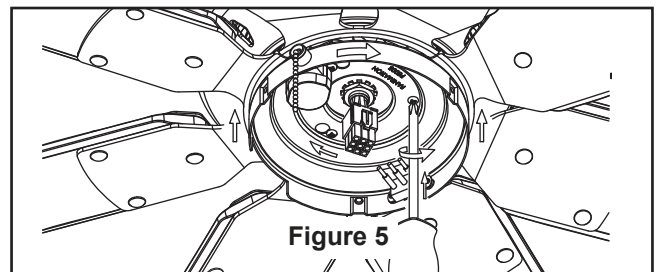

Figure 5
- 8. Remove one of the three screws in the support bracket. Attach the switch cup support cover to the support flange by rotating plate and properly positioning screws in key slots. Install third screw in remaining hole. Fully tighten all three screws. (Figure 5)